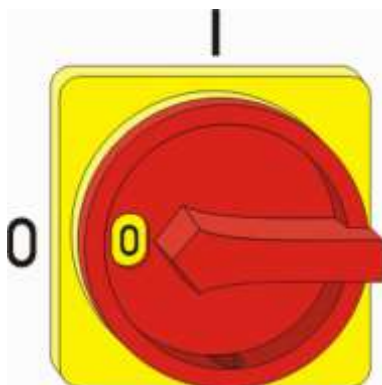

Fig. 53: main switch
1. Ensure that the main switch is in the "0" or "Off" position (Fig. 53).